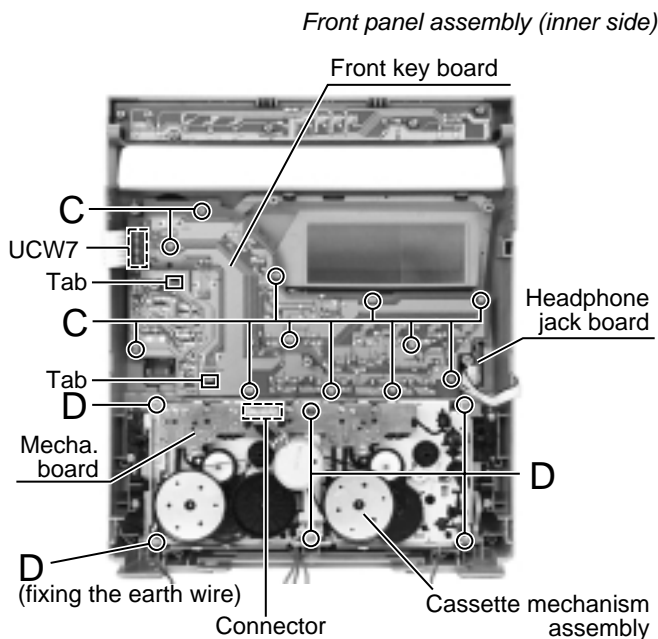

Fig.3
■Removing the cassette mechanism assembly (See Fig.3)